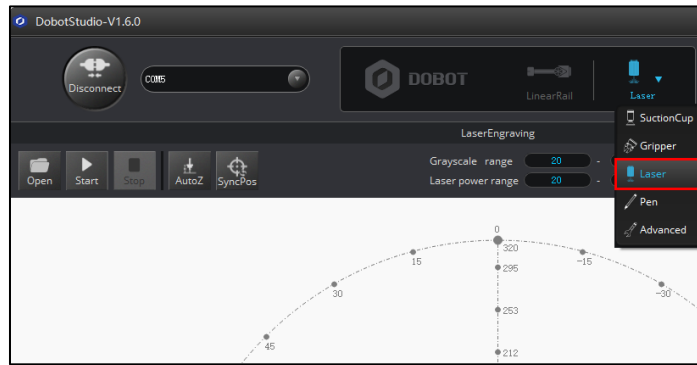

Figure 5.93 Choose Laser as the end-effector
Step 1 Choose **Laser** as the end-effector on the **LaserEngraving** page, as shown in Figure 5.93.